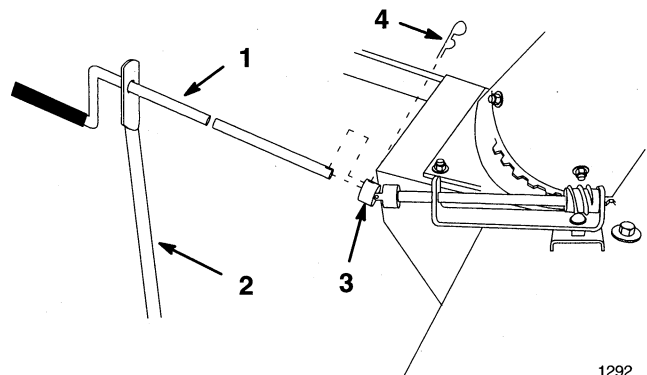

Figure 18
3. Remove hairpin cotter at U-joint and slide crank handle out of support (Fig. 18).